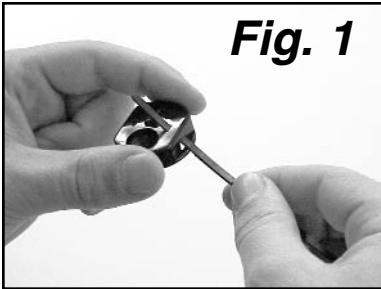

Fig. 1
1. Push the leading edge of the SK-943T Tie-Wrap through the hole in the side of the detachable end, and out the back, as shown in Fig. 1 at left.